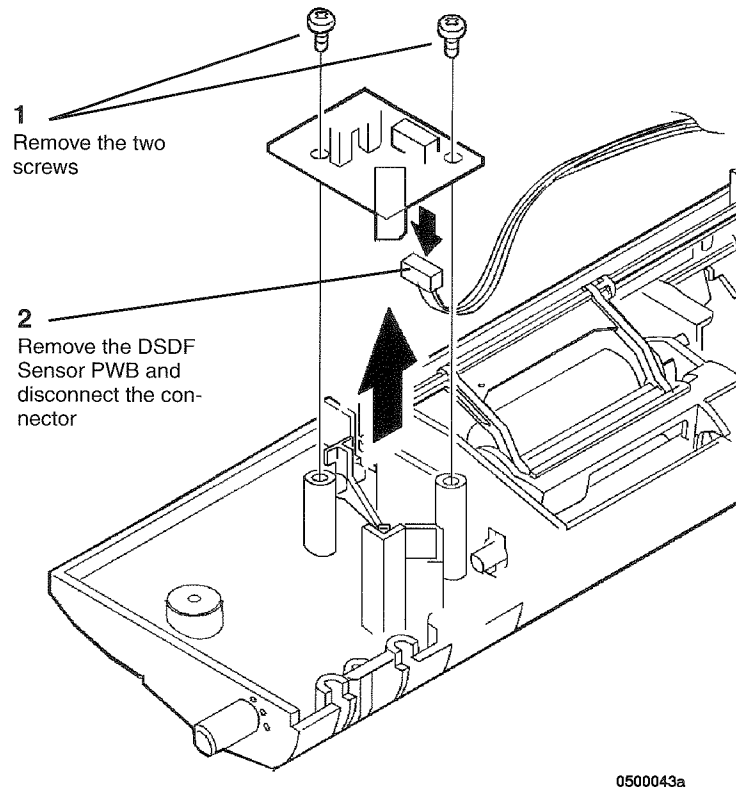

Figure 2 Removing the DSDF Sensor PWB
3. ( Figure 2): Remove the DSDF Feed Solenoid (SOL1).